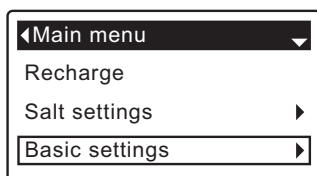

FIG. 44
2. Press the DOWN ▼ button to scroll through the menu options until **Basic settings** is highlighted (See Figure 44).